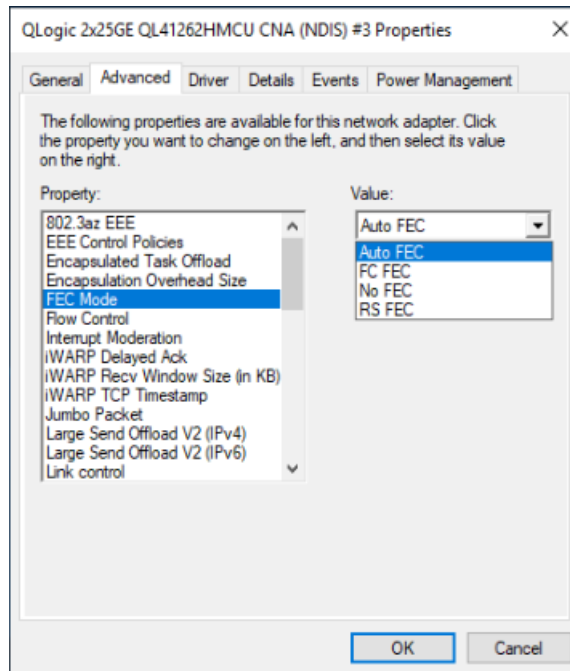

Figure 3-13. Setting the FEC Mode Property
- b. In the Value menu, select a valid value (see Figure 3-13).